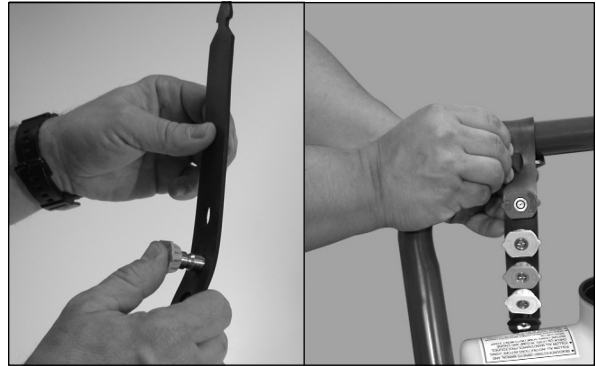

Figure 9 - Insert spray tips into the rubber tip holder
9. Install quick connect tips to tip holder and secure to the pressure washer handle. See Figure 9.